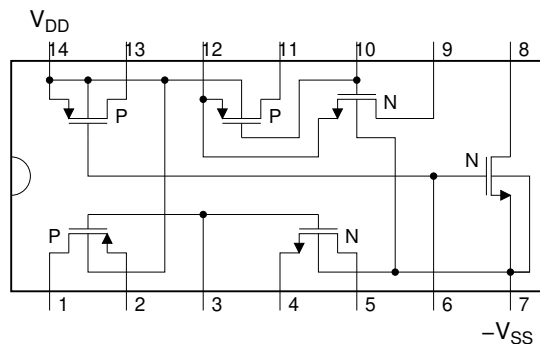

Figure 7: Schematic diagram of CD4007 chip
- Repeat (1) for the CD4007N transistor. See Fig. 7 for the internal schematics of CD4007 chip, connect pin 7 to GND and pin 14 to +5V supply voltage.